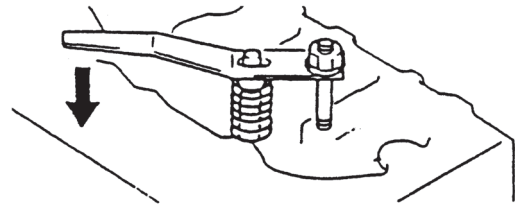

Figure 6-10
3. Using the valve spring compressor tool, compress one of the valve springs (**Figure 6-10**).